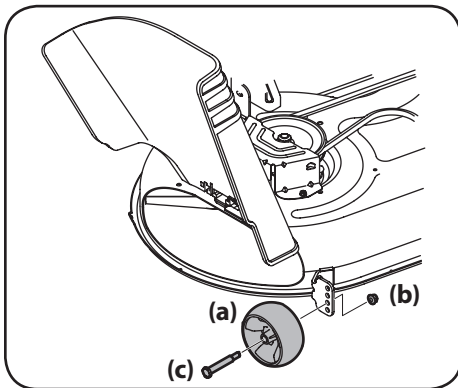

Figure 2-10
- b. Remove the front and rear deck gauge wheels (a) by removing the lock nuts (b) and shoulder screws (c) which secure them to the deck. See Figure 2-10.